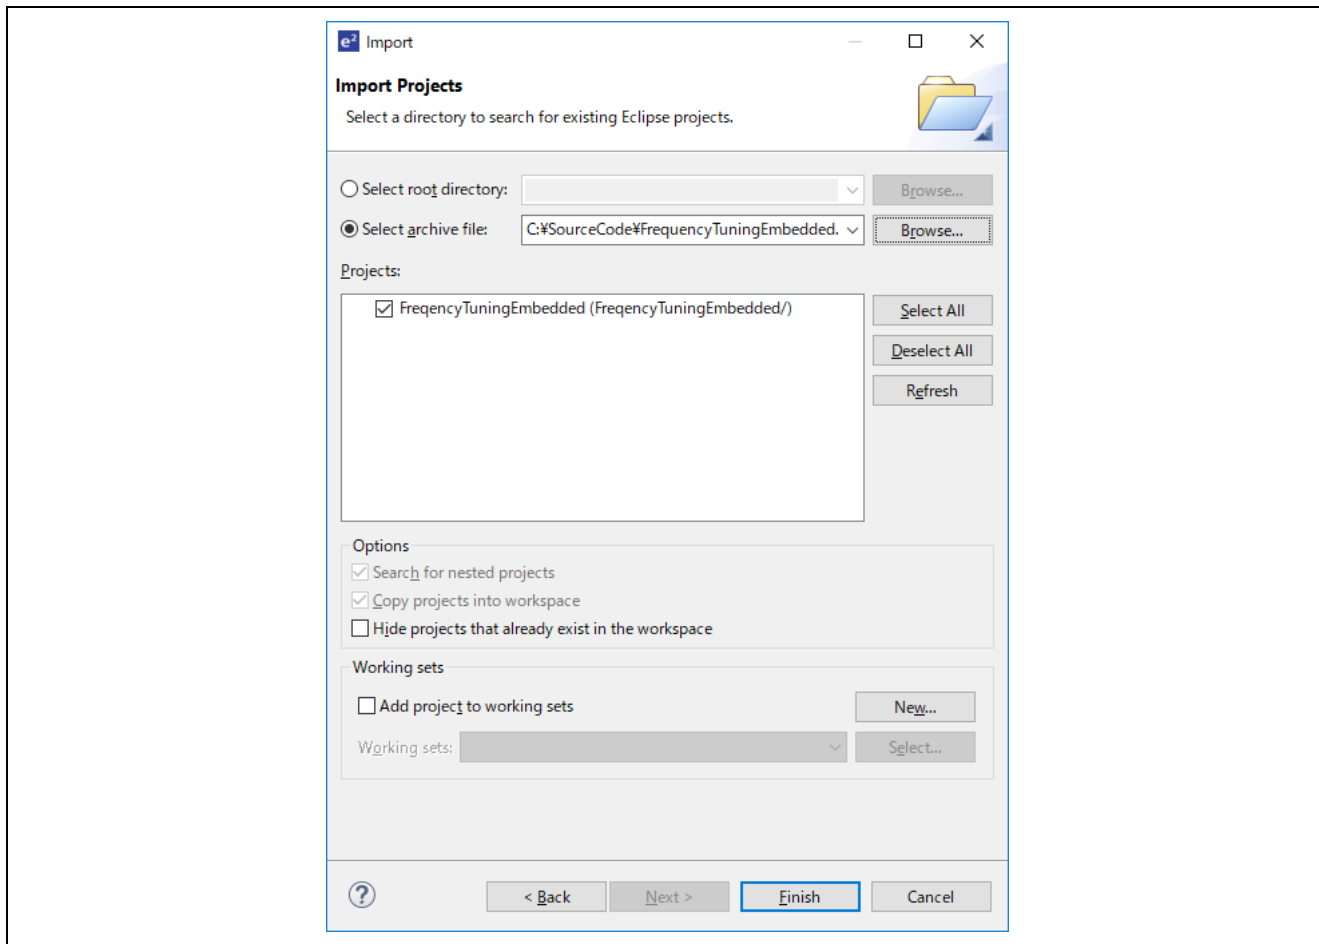

Figure 6-5. Import project from archive file
7. Click [Select archive file] and select “FrequencyTuningEmbedded.zip” which put in step 1 (Figure 6-5)